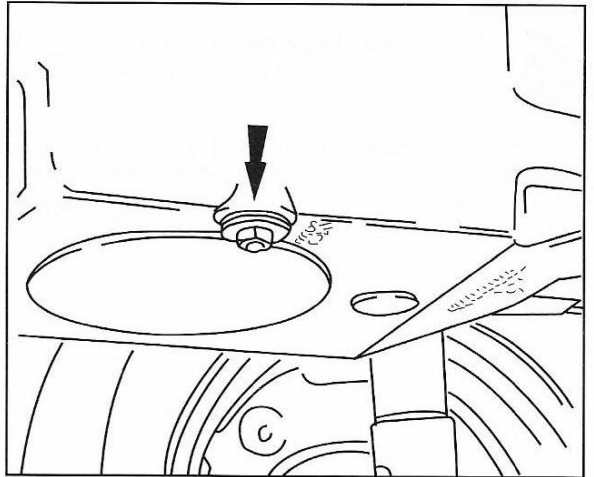

Fig. 70
1. With the tractor standing on level ground, place a drain pan beneath the engine sump, then remove the engine sump plug (Fig. 70).